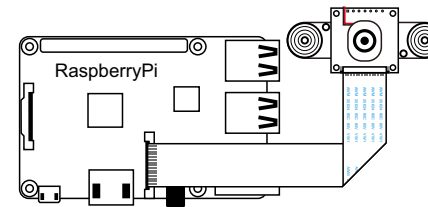

Figure 1 Connecting the camera
- Watch the following picture to see a demonstration of the camera being connected: (as shown in figure 1)